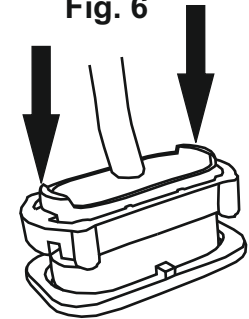

Fig. 7
- 7) Press the top ring once again on both sides as shown in Fig. 7 so that the top ring will be locked in the bottom notches and the sensor module will be firmly locked in its place.